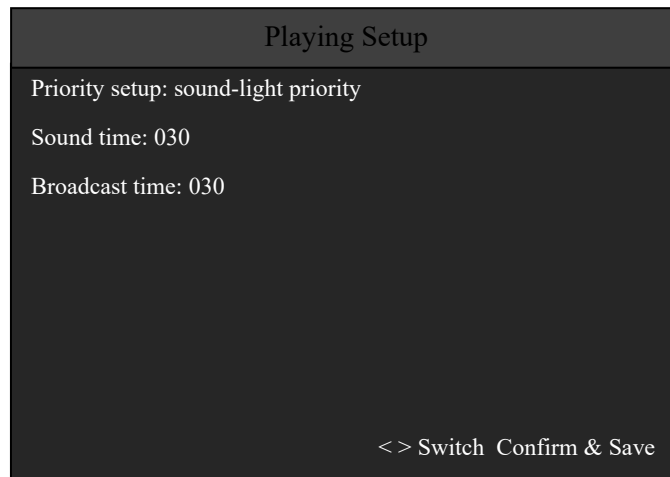

Fig. 3-19 Playing setup
In user setup interface, press number key 4 or move the cursor to 4, and then press "√" key to go into broadcast setup interface. Priority setup can be "sound-light priority" or "broadcast priority"; set up sound-light and broadcast playing time according to the requirements; press "√" key to save, as shown in Fig. 3-19.